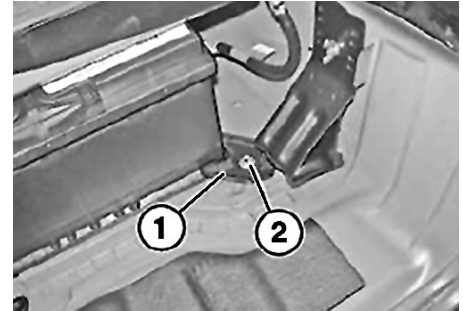

Fig. 8 Battery retainer bracket removal
14. Remove battery retainer bracket screw (2) and bracket (1), **Fig. 8.**
3. Install battery retainer bracket (1) and screw (2), **Fig. 8.**